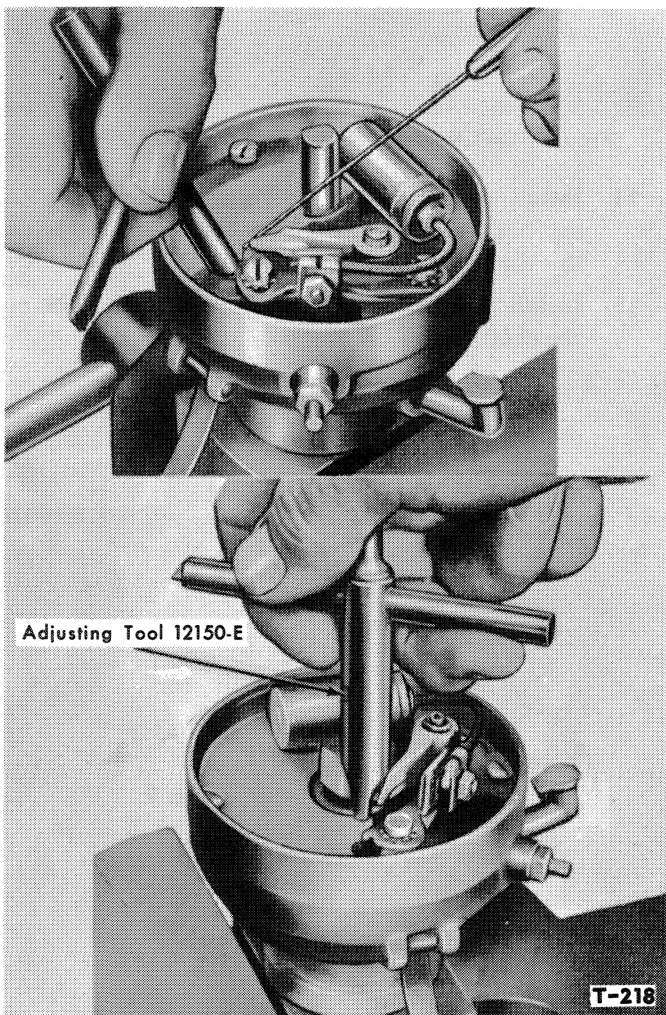

Figure 13—Aligning and Adjusting Breaker Points
11. Bend the stationary point as required, with Adjusting Tool 12150-E, Figures 13 and 14, to align the points and make both contacts parallel and in alignment with each other.